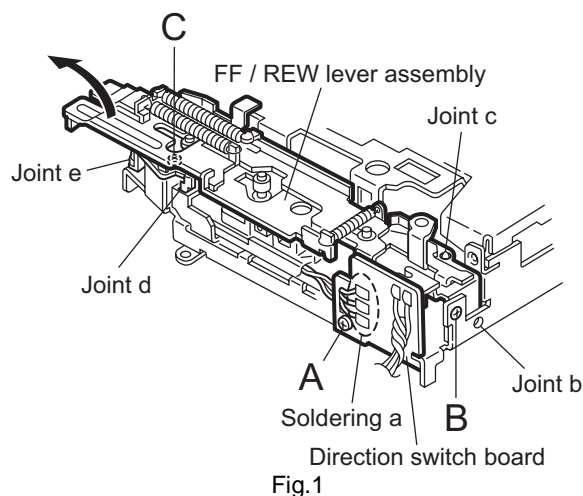

Fig.1
2.2.1 Removing the direction switch board (See Fig.1)
2.2.2 Removing the FF / REW lever assembly (See Fig.1)
2.2.3 Reattaching the FF / REW lever assembly (See Fig.1)